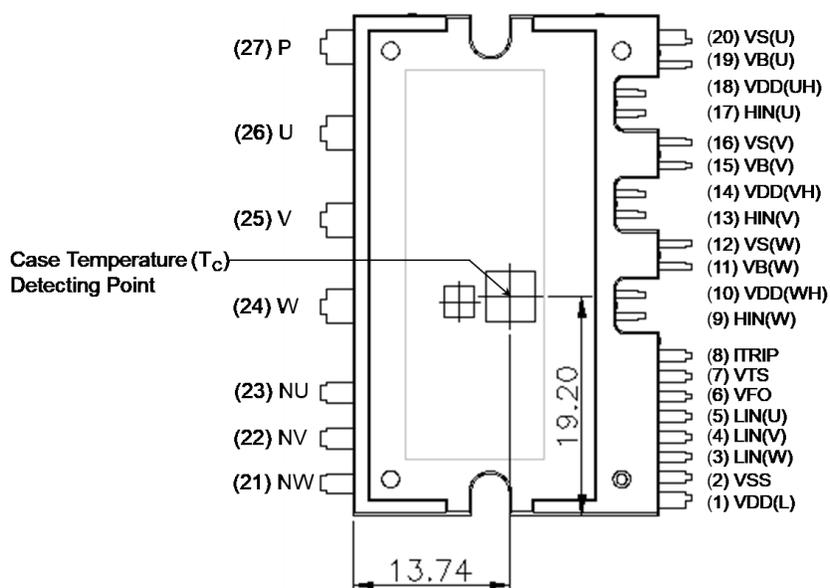

Figure 8. Case Temperature (Tc) Detecting Point
- For the measurement point of case temperature ( $T_c$ ), please refer to Figure 8.